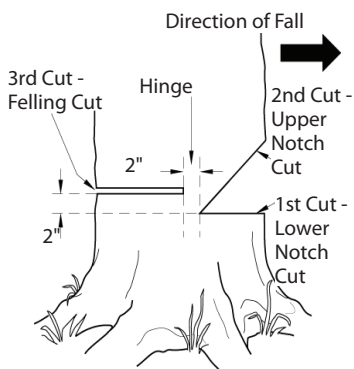

Figure 15 - Felling A Tree
A properly placed felling notch will determine direction tree will fall. Place felling notch on side of tree in direction you want tree to fall (see Figure 15).
1. Make lower notch cut as close to ground as possible. Hold saw so guide bar is horizontal. Cut 1/3 the diameter of tree trunk (see Figure 15). *Note:* Always make this horizontal lower notch cut first. If you make this cut second, tree can pinch chain or guide bar.
Example: If lower notch cut is eight inches deep, start upper notch cut eight inches above it. Cut downward at 45° angle. The upper notch cut should meet end of lower notch cut (see Figure 15).
1. Make felling cut two inches higher than lower notch cut and on opposite side of tree (see Figure 15, page 14). Keep felling cut parallel to lower notch cut.
WARNING: Do not cut all the way through tree. Leave about two inches of tree diameter uncut directly behind felling notch (see Figure 15). This uncut portion acts as a hinge. The hinge helps keep tree from twisting and falling in wrong direction.